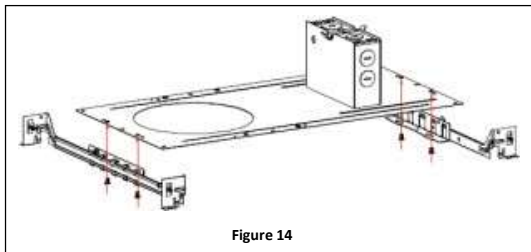

Figure 14
1. Install the (4) pan head screws into the drywall pan from the bottom (Screw heads should be on the bottom of the pan). Do not fully tighten. Leave a 1/8" space. **See Figure 14.**